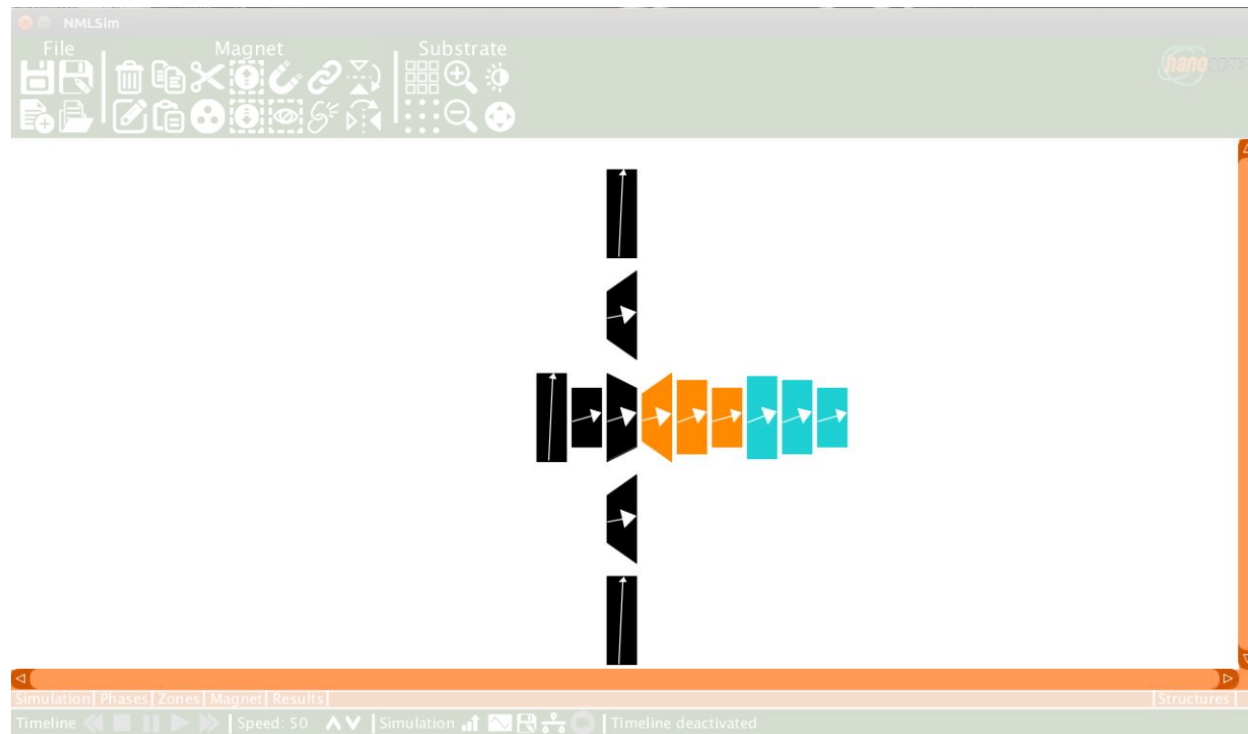
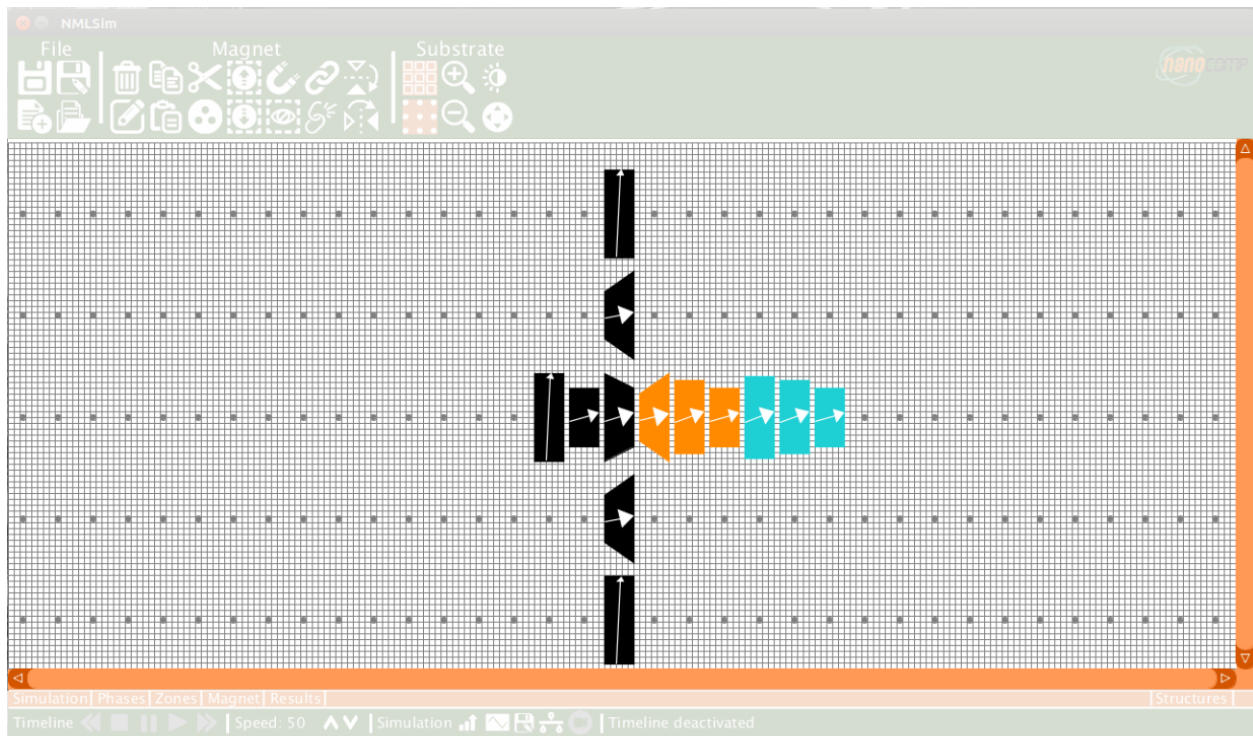
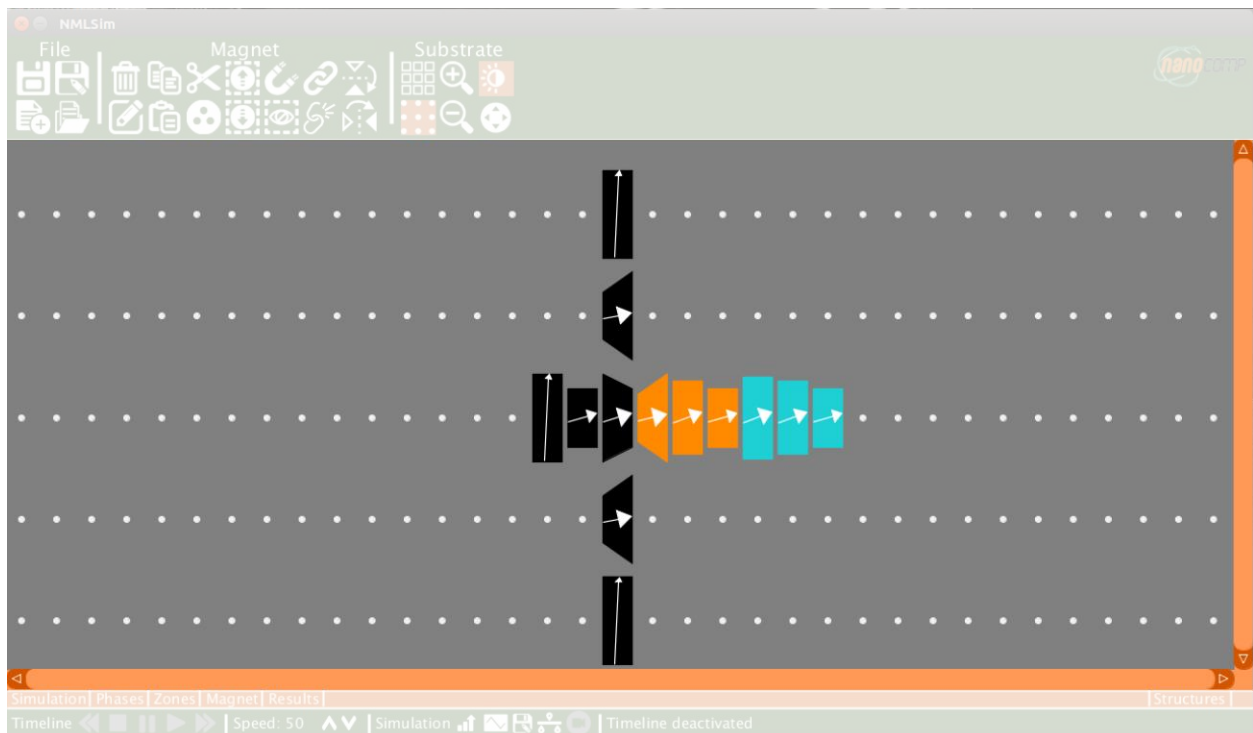

Figure 14. Substrate grid workspace highlighted.
Figure 15. Substrate grid with active bullet references and rulers, highlighted in the figure.
Figure 16. Substrate grid in dark mode, highlighted in the figure.
- **Zone View:** toggles the view mode, one of them show the clock zone in the fill area of the magnet; while the other shows the magnetization in the fill and the clock zone in the stroke (Figure 16).
- **Grid:** toggles the grid ruler visibility (Figure 14).
- **Light:** toggles the light view mode (Figure 15).
The substrate grid is the main workspace in NMLSim 2.0 (Figure 14). There is an option to activate a personalized ruler just for reference (Figure 15). This area has two light modes: dark and white (Figure 16). There are two scroll bars to move the substrate grid around. The bullet system is used to center the magnet on top of the bullet. Once this system is deactivated, the user can place the magnets and structures freehanded.